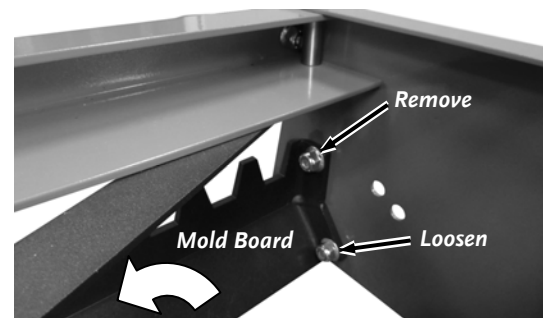

Figure 11
7. Remove the top Bolts, Flat Washers and Locknuts that are securing the Mold Board using two 9/16" Wrenches (**Figure 11**).